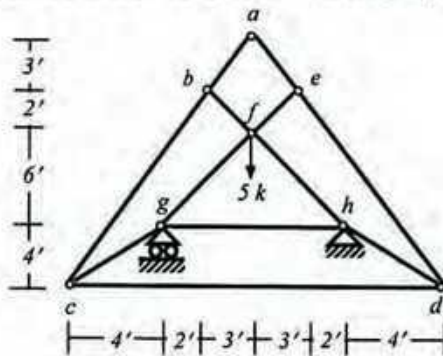

Fig.4
5. For the truss shown in *Fig.4*, use Virtual Work Method to calculate the vertical deflection of the point f due to the external loads applied [Given: $EA/L = 500$ kip/ft, for all the truss members].